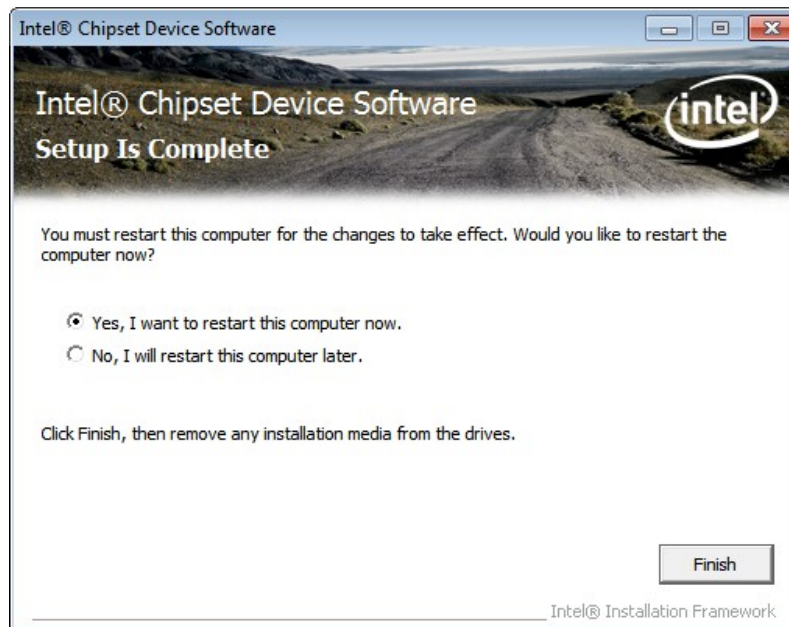

Figure 6-7: Chipset Driver Installation Finish Screen
Step 12: The **Finish** screen in **Figure 6-7** appears.
See **Figure 6-7**.